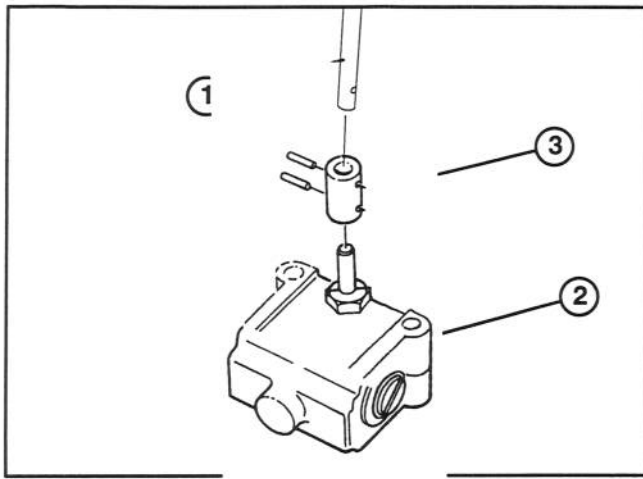

**Figure 8**
1. Mount (2) wheel weights to each wheel using 1/2-13 x 4-1/2 carriage bolts and locknuts (Fig. 8).